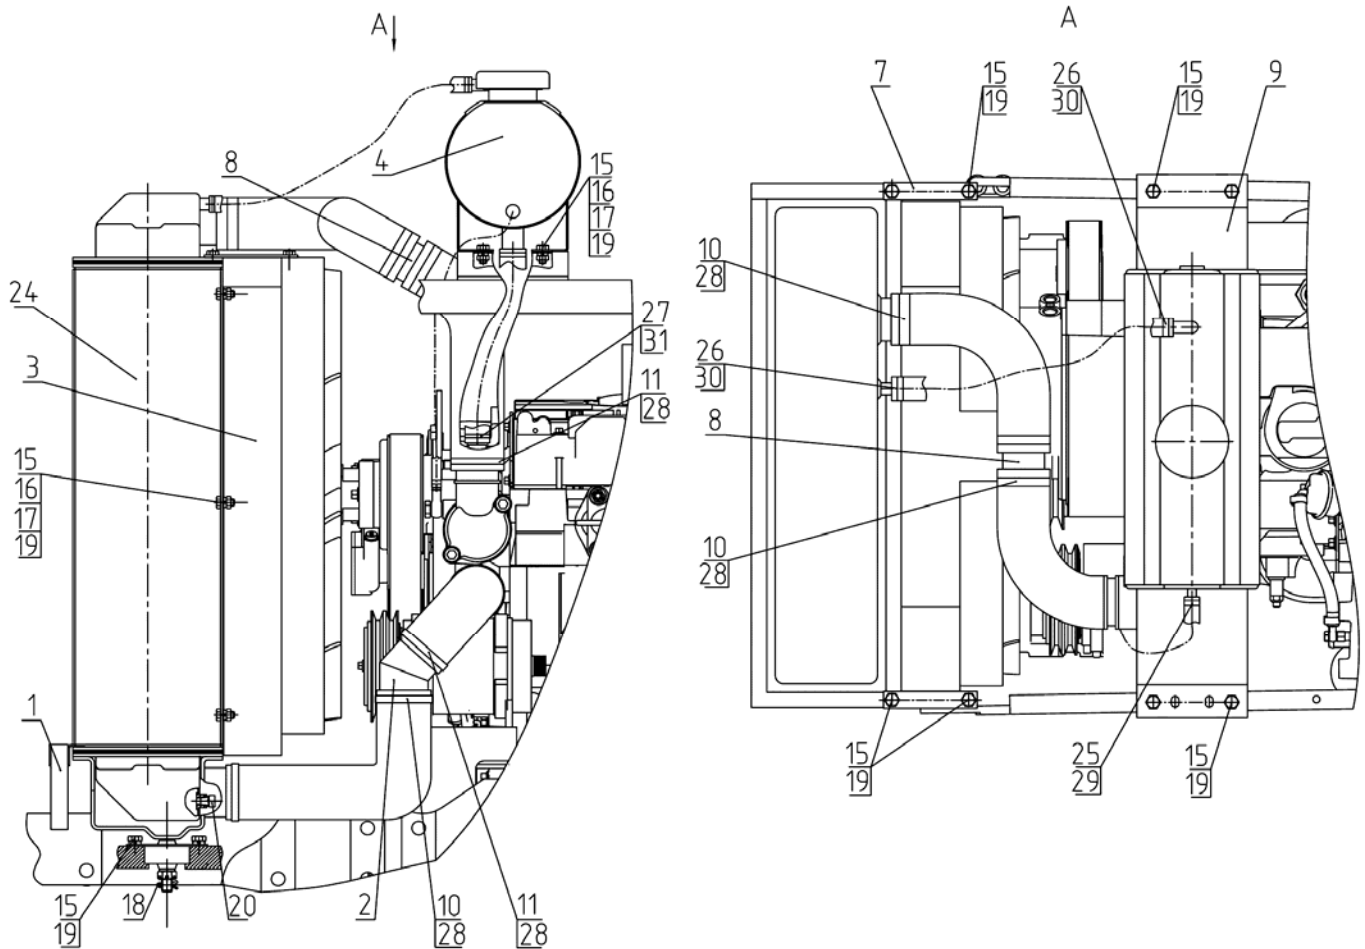

Figure 3.14 Cooling system
- b) disconnect hose 10, sleeves 29, 30, 31 from radiator 24 (Figure 3.14);